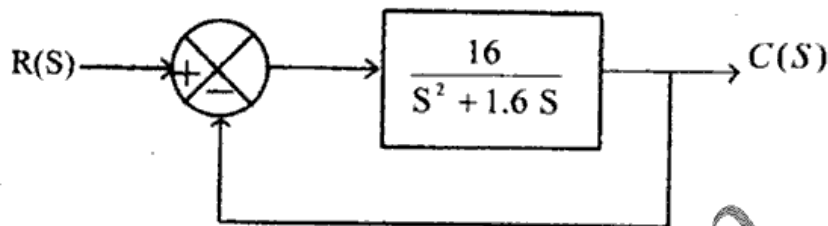

Fig .2(b)
Q.2. (b) A unity feedback control system is shown in Fig 2(b), By using deviative control, the damping ratio is to be made 0.8. Determine the value of T_d and compare the rise time, peak time and maximum overshoot for the system -